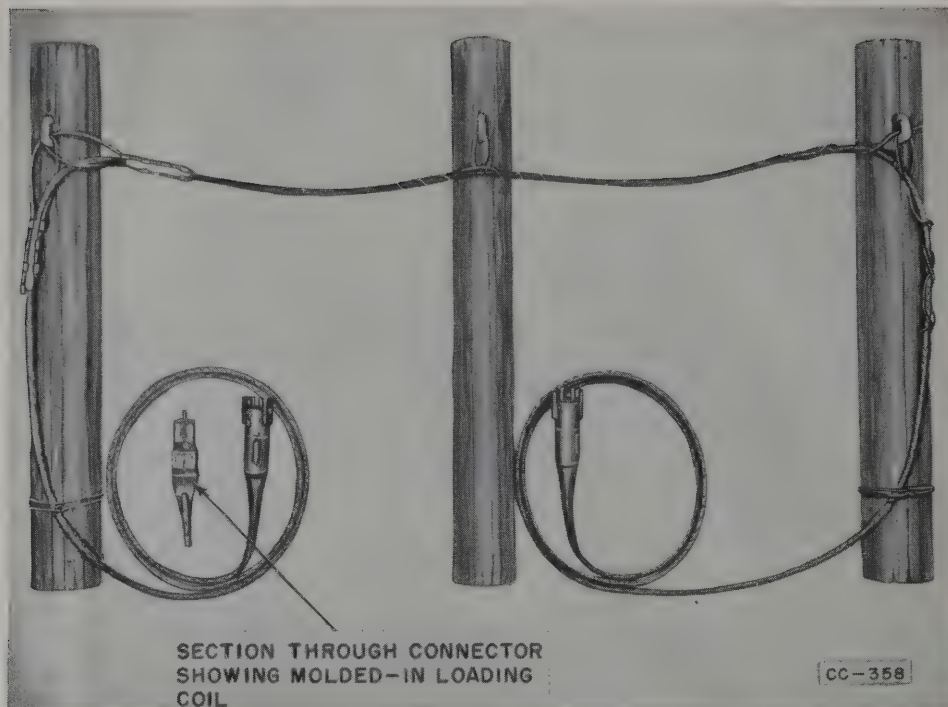

Figure 34. Cable Assembly CC-368-(*).
- (2) Cable Assembly CC-358-(*) will make up the line between Telephone Terminal CF-1-(*) and the radio terminal station. Its physical appearance, except for length, is identical with that of Cable Assembly CC-368-(*) which is shown in figure 34. Cable Assemblies CC-358-(*) are supplied with the radio equipments.
l. CABLE ASSEMBLY CC-368-(*). This assembly (fig. 34) consists of 100 feet of spiral-four cable with couplers at both ends. It has